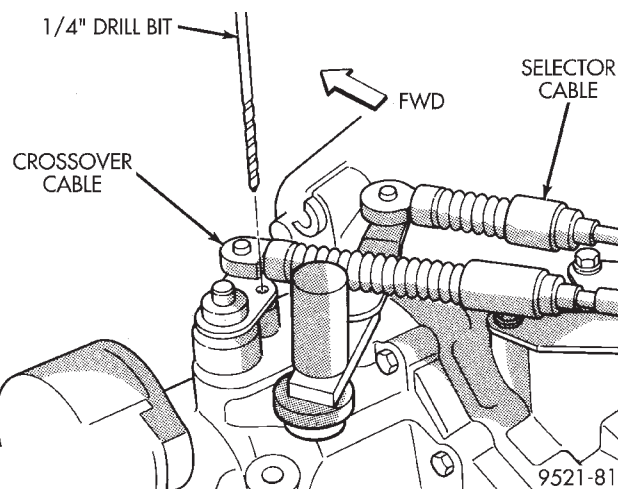

Fig. 150 Crossover Lever Pin Procedure
(3) Pin transaxle crossover lever in 3-4 neutral position using a 1/4 inch drill bit. Align hole in crossover lever with the hole in the boss on the transaxle case (Fig. 150). Make sure drill bit goes into transaxle case at least one half inch.
(4) The shifter is spring loaded and self centering. Allow shifter to rest in its neutral position. Torque adjustment screw to 8 N·m (70 in. lbs.). Care must be taken to avoid moving the shift mechanism off-center during screw tightening.
(5) Remove drill bit from transaxle case and perform functional check by shifting transaxle into all gears.
(6) Reinstall console. Reinstall boot and knob.